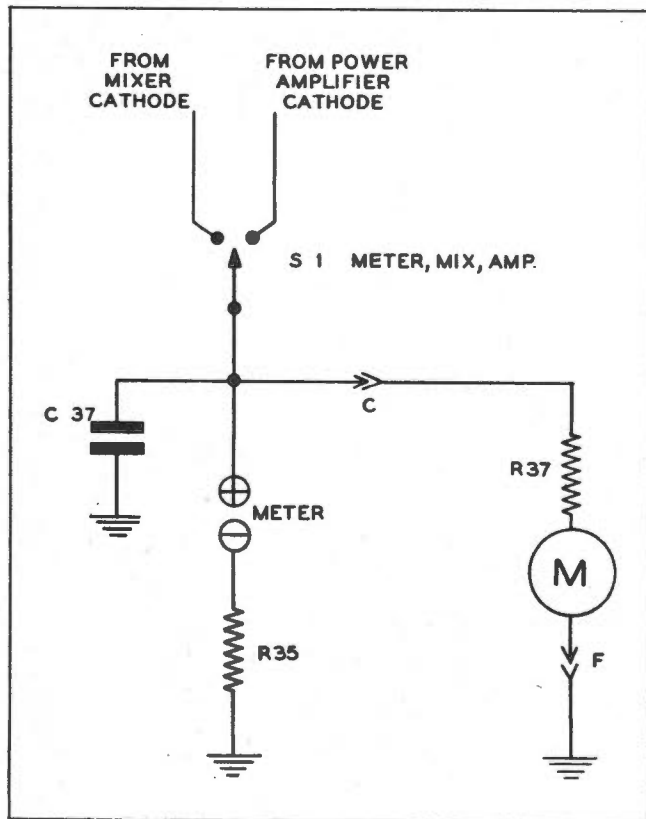

Figure 4-11. Schematic Diagram of Plate Current Meter Circuit
a. When "METER" switch S1 is thrown to the "MIX" position, a milliammeter is connected in parallel with resistor R26 and will give an indication which is proportional to the mixer cathode current. (See fig. 4-11.)